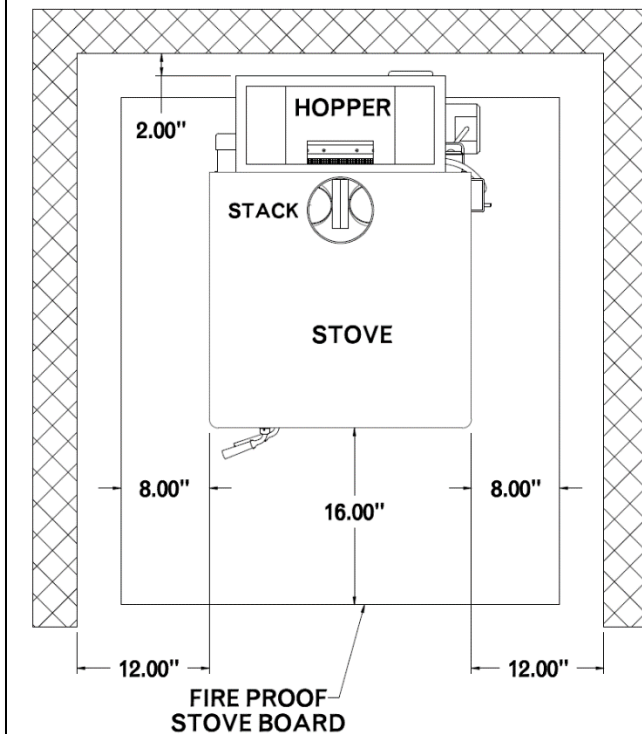

FIGURE 1a
3. Select a position on a solid level surface with direct access to a chimney. On non-masonry floors, use an approved fireproof floor protector under stove. Maintain 12" clearance on sides of stove to combustibles. Maintain 6" clearance from 4" pipe to combustible. Clearance from 6" black wall pass thru pipe is 0" to combustibles. A 2" clearance on rear and 16" clearance on front of stove. Clearance from corners of stove is 8". See label on stove. Refer to Figure 1a & 1b.